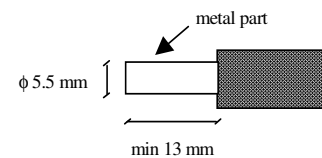

Fig. 5.2. The plug of the DC power supply
- 9V-12V DC / 4W stabilized power supply. The plug dimensions are given in Fig. 5.2.